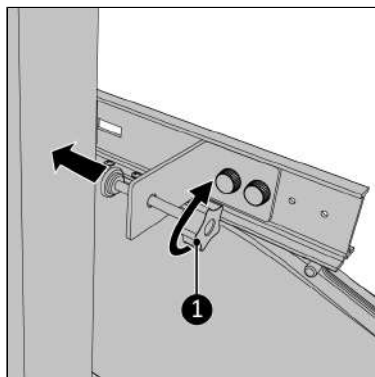

Figure 92.
15. Screw the clamping screw carefully to the fixed part of the window frame (Figure 92, pos. 1).